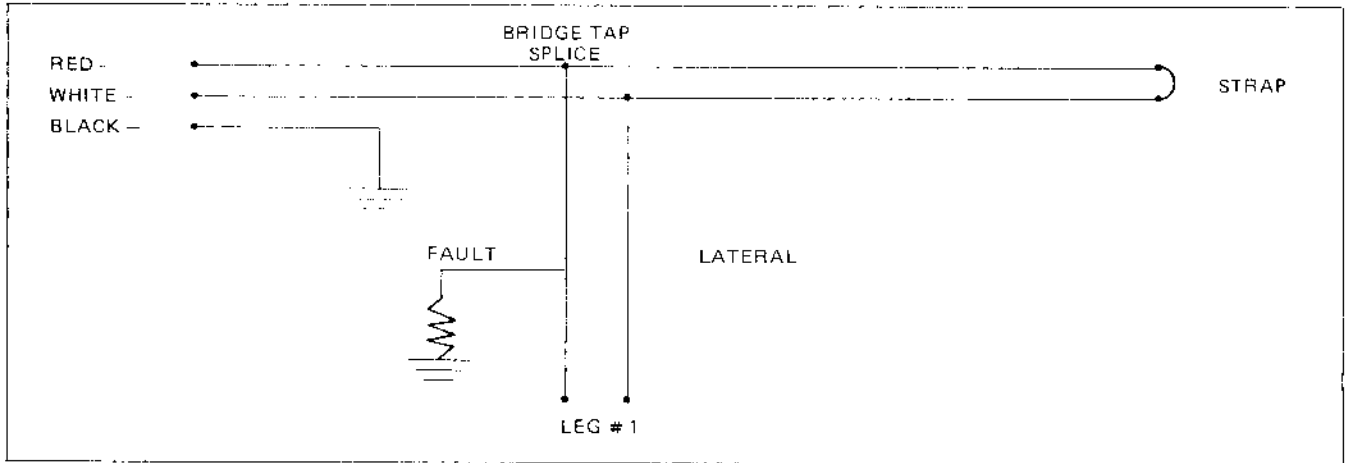

Figure 10 Bridge Tap Splice
(A) If a bridge tap is present between the Model 210 and the strap, and the fault is somewhere on the lateral, the set will measure to the bridge tap splice point (see Figure 10).